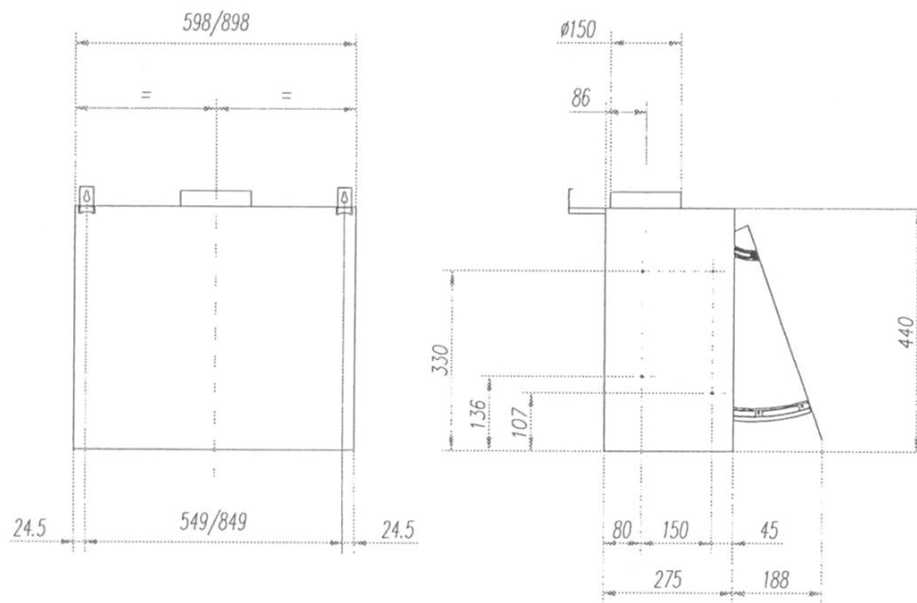

Fig. 1
- Drill two holes into the wall using the dimensions set out in (Fig.1) above. Ensure that the screws are fixed into material suitable to carry the load of this unit.